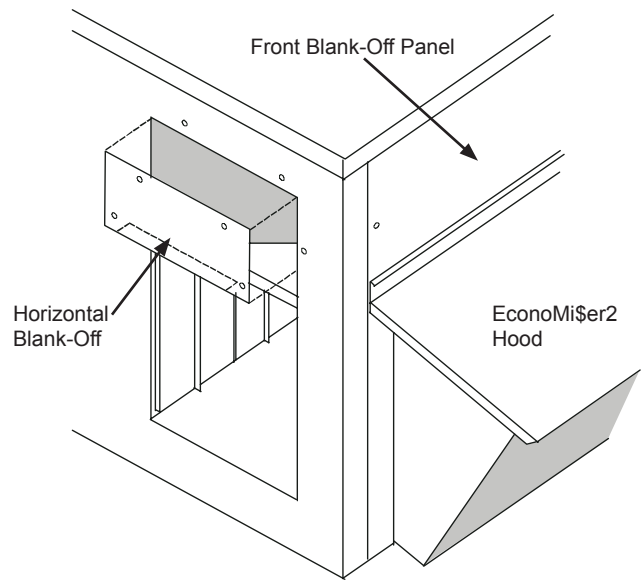

Fig. 11 - Horizontal Return Opening Blank-Off Panel
15. On some units the return damper does not reach to the top of the horizontal return opening in the unit. In this case a horizontal blank-off must be installed. Install the horizontal blank-off at the top of the horizontal return opening. (See Fig. 11.) Screw in place thru pre-punched holes.